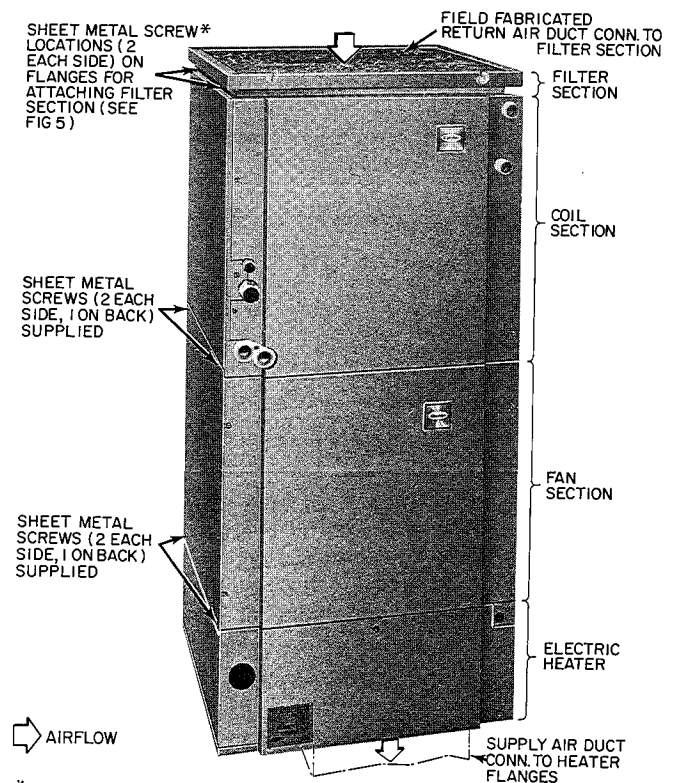

Fig. 8 — Downflow Heating and Cooling Unit Assembly
Step 4 — Connect Ductwork to Unit Supply and Return Air Openings — Duct connection flanges are provided on fan section when used with accessory flange deck, cooling coil, electric heater and filter section, Fig. 1 thru 8. Two instances may occur when duct connection flanges are not available for use: when cooling unit or cooling and heating unit is assembled for downflow cooling or downflow cooling and heating with filter section in place (Fig. 8), when filter section is installed on fan section or cooling coil with its duct connection flanges in alternate position inside of coil or fan casing. Field-fabricated duct connections are then required.